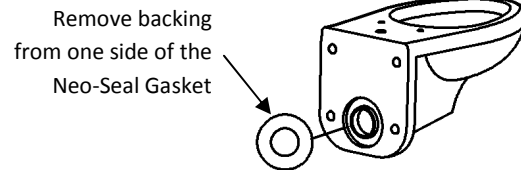

Figure 17
17. Peel off the removable backing from one-side of the Neo-Seal Gasket and seat into the groove of the water closet outlet horn. See **Figure 17**.